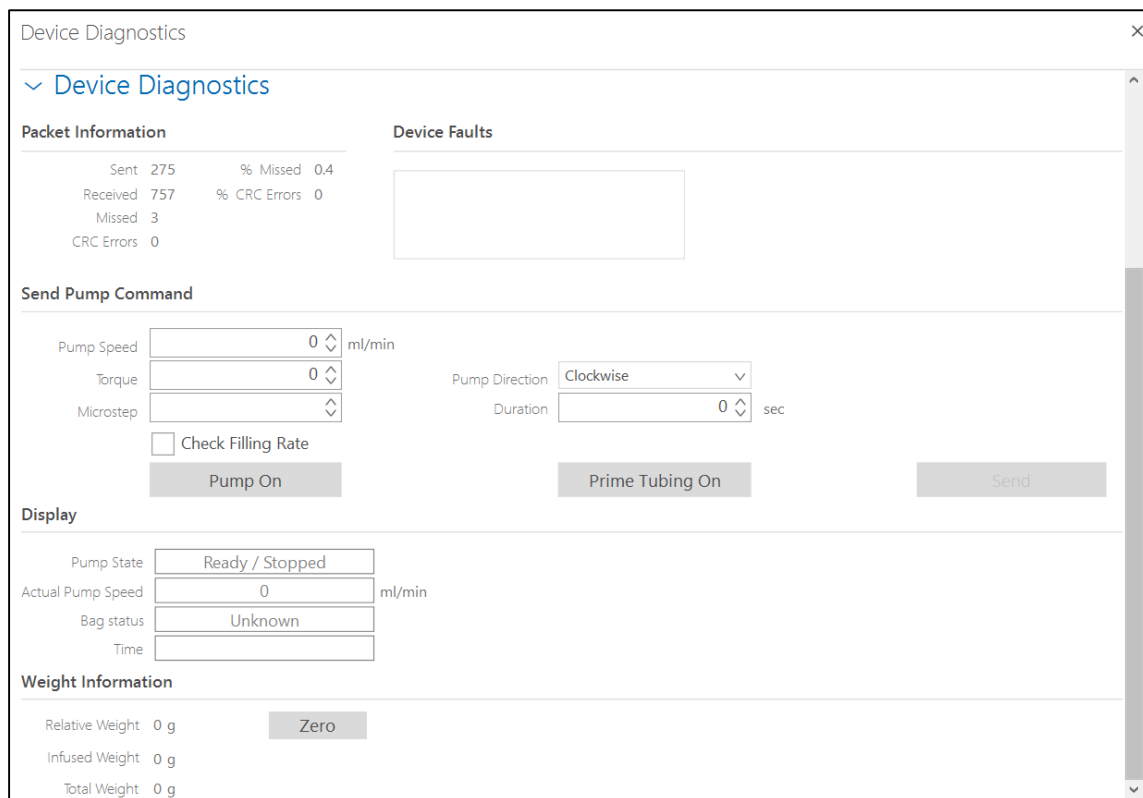

Figure 70: Infusion Pump NXT Diagnostics Window
- Click the **Infusion Pump NXT** option, then click the **Run Diagnostics** button. The device diagnostics window will pop-up (Figure 70).